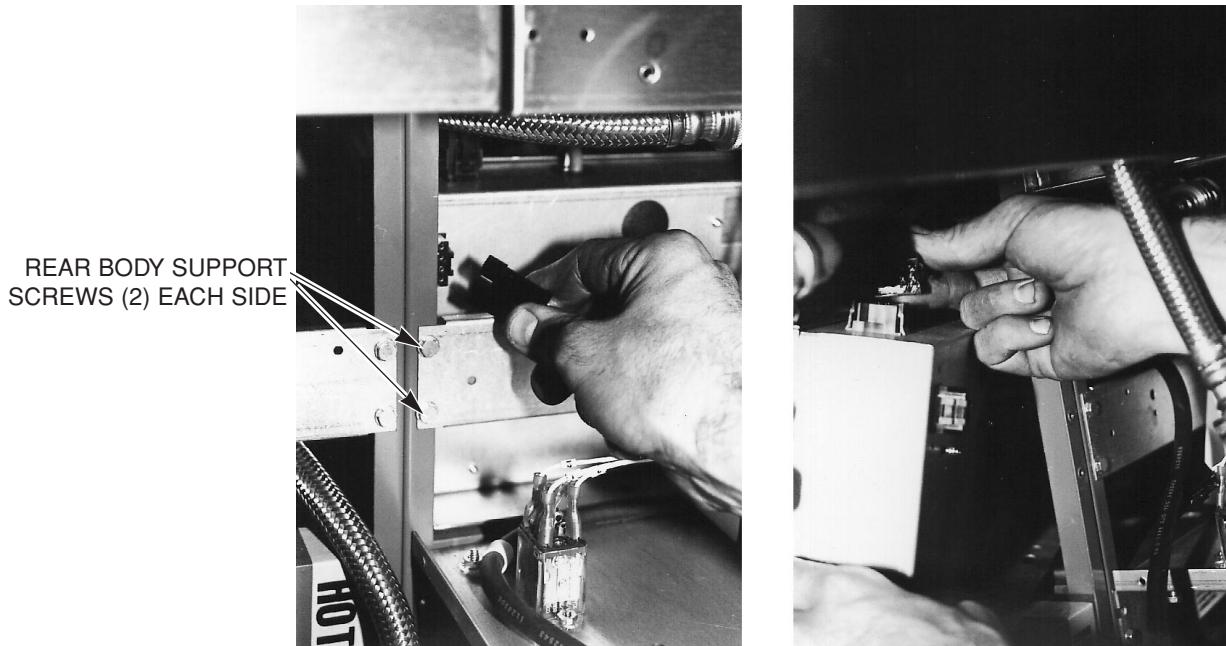

Fig. 73
2. Note and disconnect all wiring and wire harnesses. (Fig. 73)
5. With a  $\frac{5}{16}$ " socket, remove (4) screws securing the rear body support bracket to the cooker. (See Fig. 73)